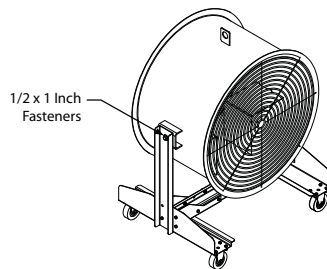

Figure 7 — Roll-About Floor Stand Shown With Industrial Air Cannon
7. Align the fan housing in the desired position for air flow and fasten to the assembled floor stand using (2) 1/2 x 1 inch fasteners. See Figure 7. Tighten fasteners to 60 ft. lbs.